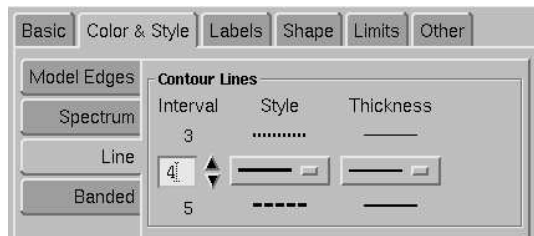

Figure 8: Option to change contour type
- Then click on the **Color & Style** tab and select the **Line** tab. This option is shown in Figure 8.